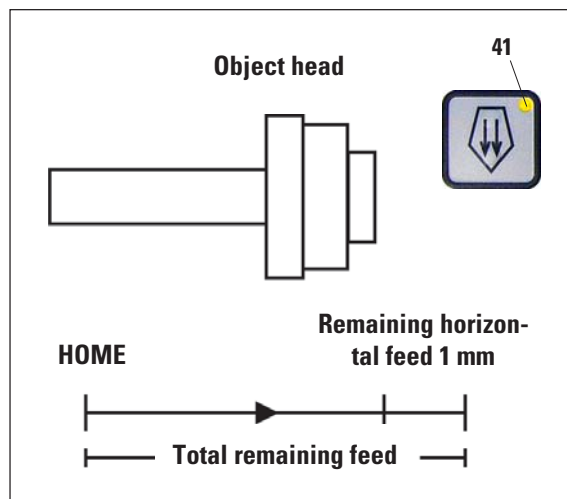

Fig. 18
- Set the specimen head to half the height of the vertical travel range by turning the hand-wheel (Fig. 18).